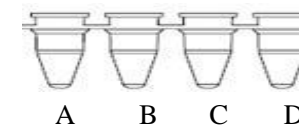

Figure 1 Schematic diagram of the 4-tube strip
2.1.1 Add each component in the kit and Sample Release Reagent (Reference Number: S1014E) or Sample Release Reagent (Reference Number: S1015E) manufactured by Sansure Biotech Inc. into the 4-tube strip as shown in **Figure 1**: